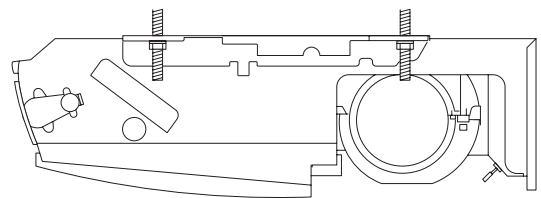

Fig. 3-47
- c) Tighten the 2 hexagonal nuts on each suspension bolt to suspend the indoor unit as shown in Fig. 3-47.